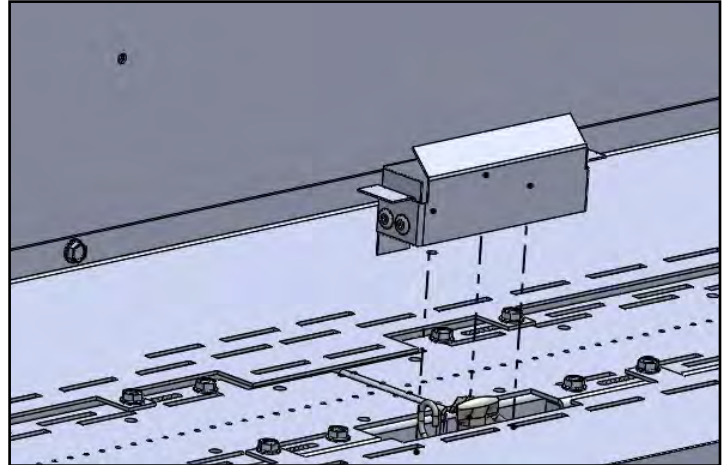

Figure 18.13.01: Pilot shield
- Remove the pilot shield (see **Figure 18.13.01**)